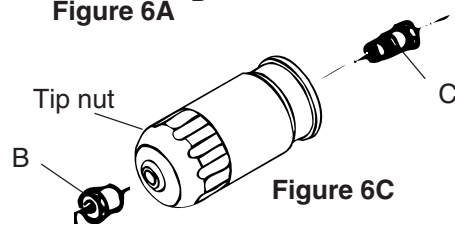

Figure 6C
- Screw out spray tip (B) using the tip spanner and remove diffuser ( C ) fig 6C.